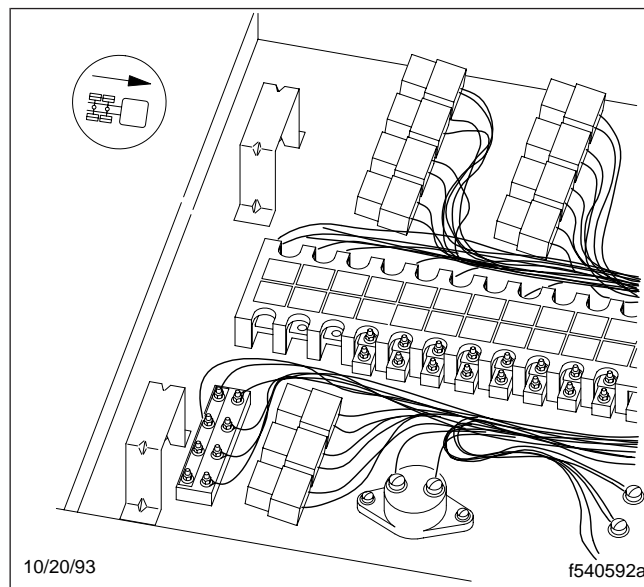
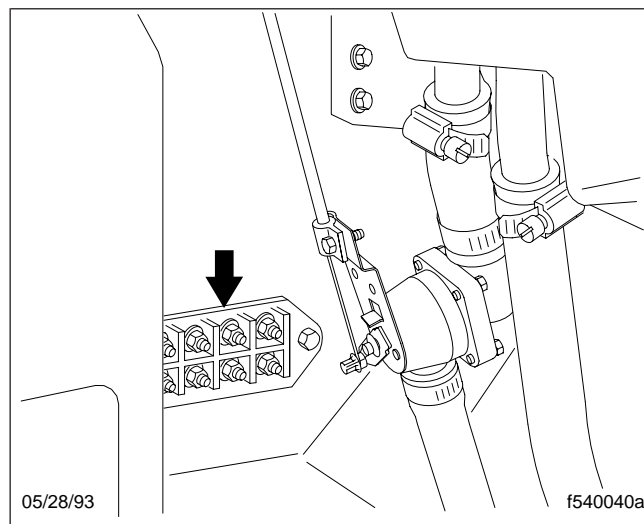

Fig. 1, FLA Electrical Mounting Plate
Fig. 2, FLA Electrical Junction Block
- For an FLA, see Fig. 1 and Fig. 2.